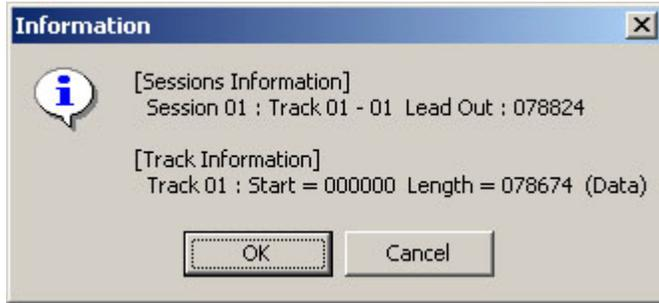

Figure 4
(5) After opening the file, you will enter Figure 4 and see the information.